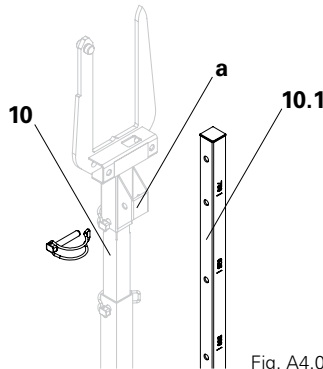

Fig. A4.03
2. Pull the measuring rod (10.1) of the distance gauge (10) out of the holder (a). (Fig. A4.03)